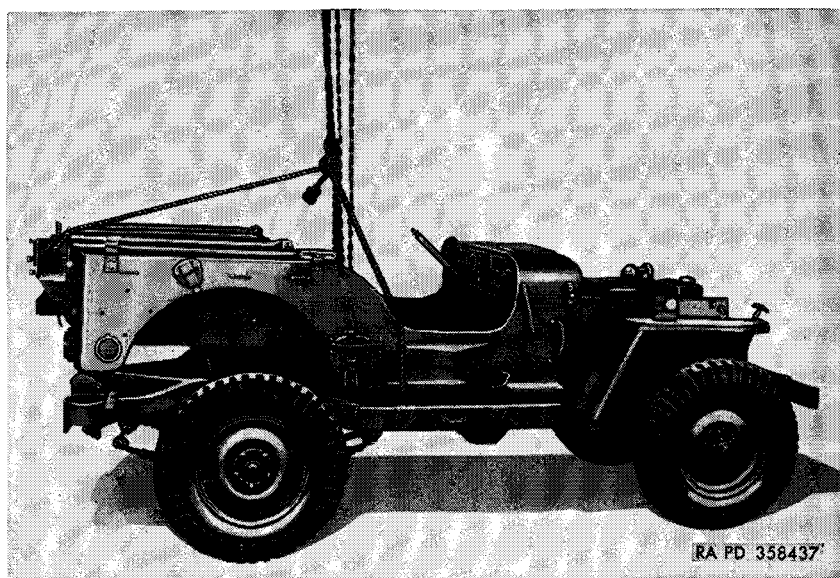

Figure 19. Removing body from frame.
j. Remove Body (fig. 19). Thread a rope between the body and frame in line with the driver's seat, leaving enough rope extending on each side to make a three-way lifting sling. Insert a suitable lifting device into the sling and slowly raise the body off the frame. While raising the body, move it toward the rear of the frame, until the steering wheel jacket is clear of the body. Move chassis out of the way and lower body to truck or floor. Remove body shims from frame.